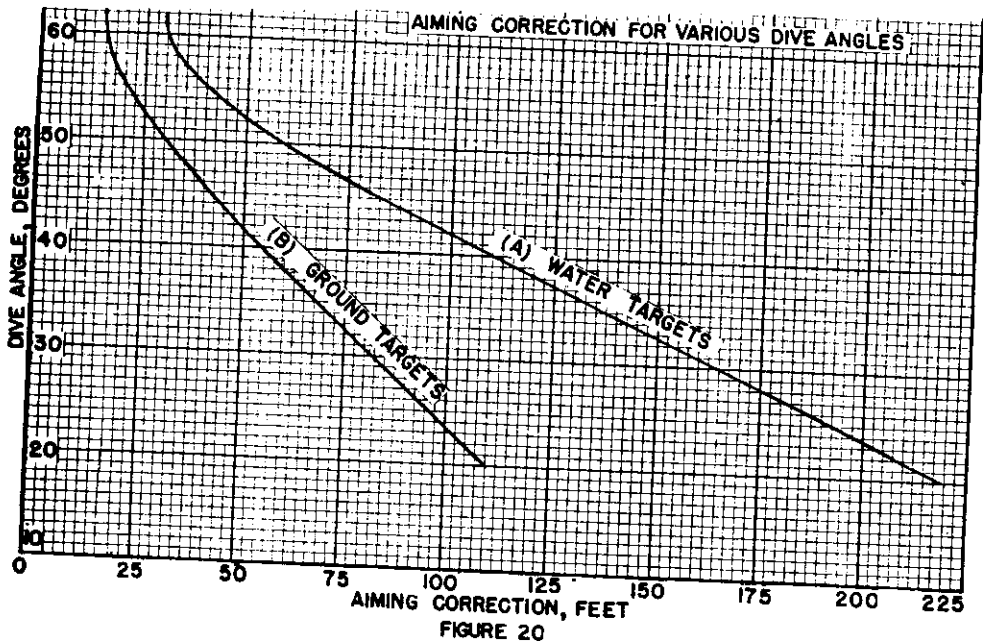

FIGURE 20
above 30° when using this fuze. Furthermore, it is recommended that the pilot make allowances for an aiming correction in range which will vary with different dive angles and also with (A) Water, and (B) Ground targets as shown in Fig. 20. The pilot should aim beyond the target by the number of feet indicated to obtain the most effective burst height and accuracy.